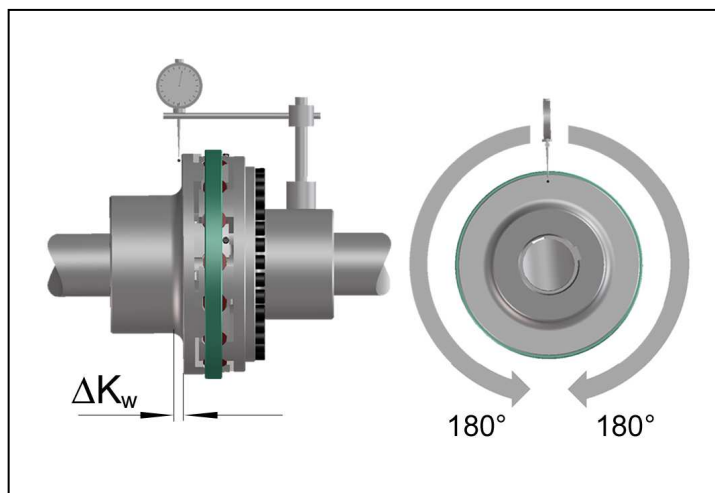

Fig. 7
- Measure one complete rotation ( $360^\circ$ ) on the face of the outer diameter. Determine the largest deviation  $K_{w1}$  and the smallest deviation  $K_{w2}$  (Fig. 7).